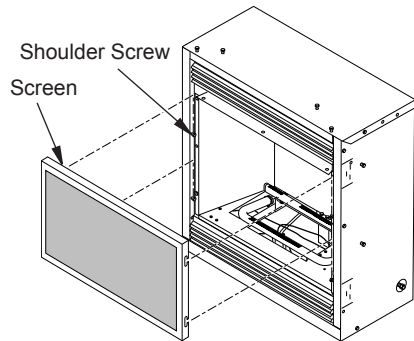

Figure 3 - Removing and Installing Screen
1. If equipped, lift fireplace screen up and pull out to remove (see Figure 3). Set screen aside until installation has been completed.